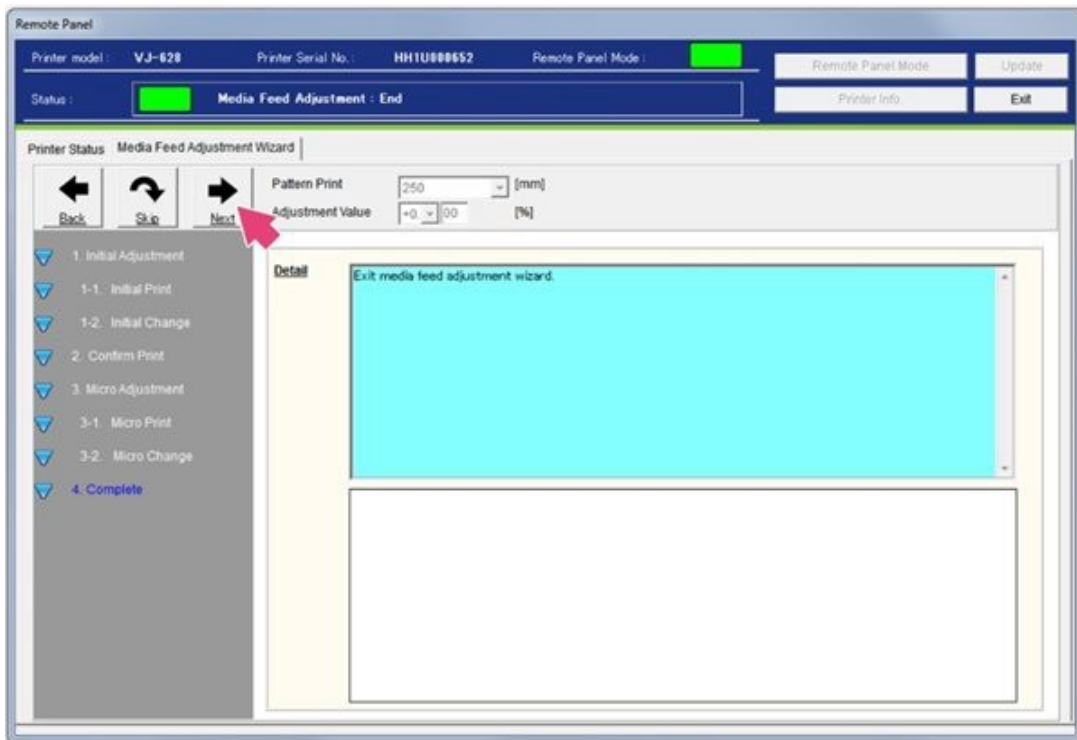

Figure 102
89. Media Feed Adjustment is complete, select **Next**. See Figure 102.